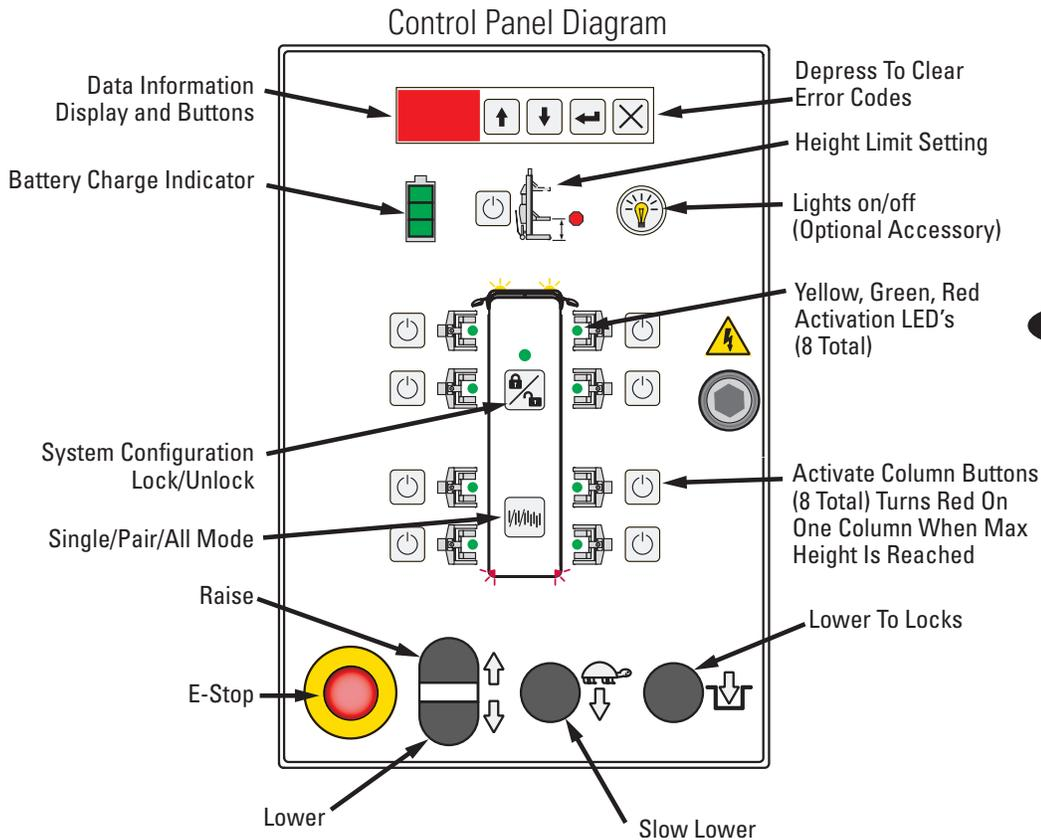

Fig. 7
6. Assigning location in set: Using the Control Panel, Fig. 7, and the bus diagram as a reference, Fig. 8, press the